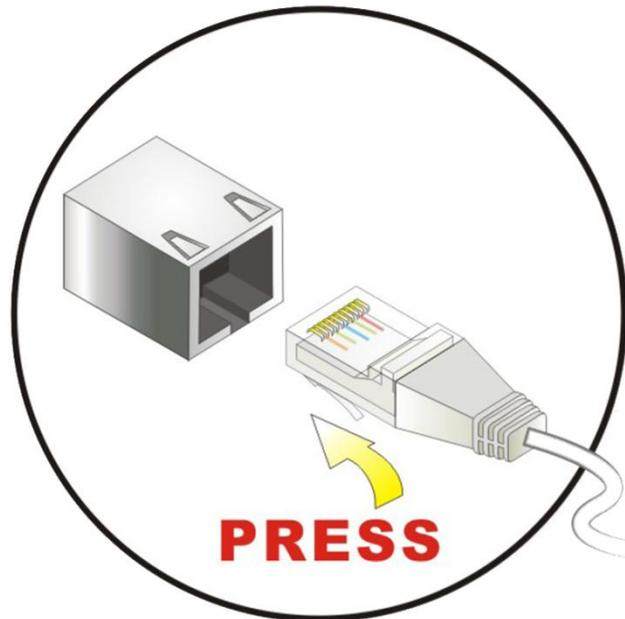

Figure 6 – LAN Connection
Step 2: Align the connector. Align the RJ-45 connector on the LAN cable with the RJ-45 connector on the bottom panel of the TSM800C. See Figure 6.